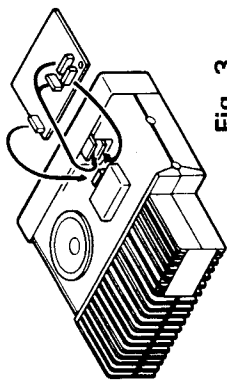
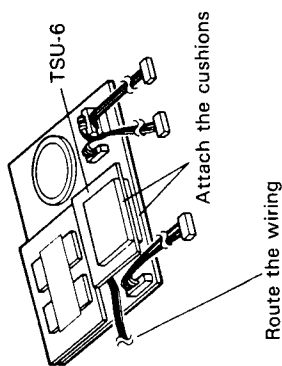

Fig. 3
Fig. 4
2. Attach the three cables from the DRU-1 in the transceiver as shown in Fig. 3. Don't forget to attach the TSU-6 as shown if you are installing this unit at the same time (Fig. 4).
Attach these units on the top of VCO shield (Fig.3).